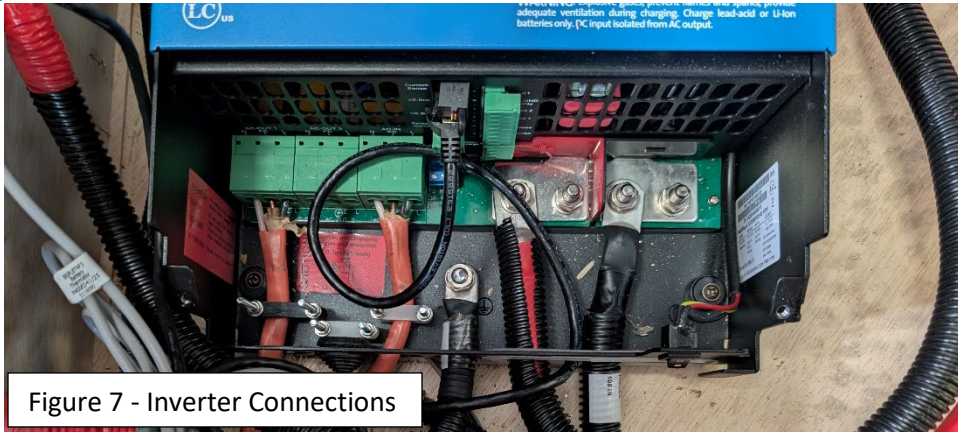

Figure 7 - Inverter Connections
29. Secure the base of the inverter to the battery box, see figure 7.